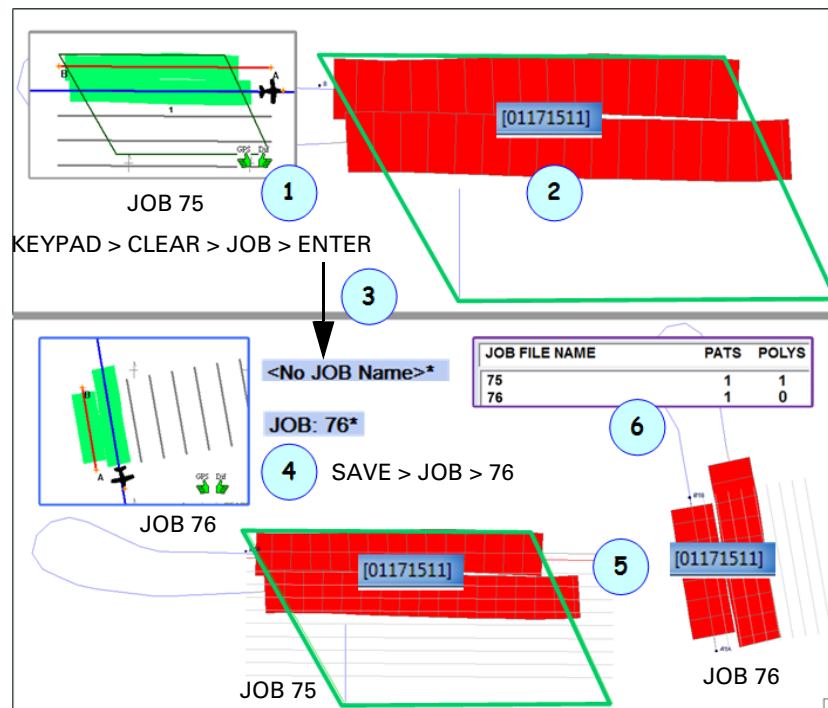

Figure 4-2: One Log, two Jobs: New Log Per Job - Yes
Figure 4-2 shows Job 75 (1) with log 1511 (2 - MapStar image). After clearing Job 75 from the screen (KEYPAD > CLEAR > JOB > ENTER), the map status is <No Job> (3). With a map status of <No Job>, a new A|B line has been set, swaths have been sprayed and the work saved as Job (and Pattern) 76 (4). All logged data for Jobs 75 and 76 is in log 1511 (5)—because no (existing) job was set (loaded) between Job 75 and 76. The purple box (6 - KEYPAD > INFO> JOB) shows Job 75 has a pattern and a polygon, Job 76 has only a pattern.